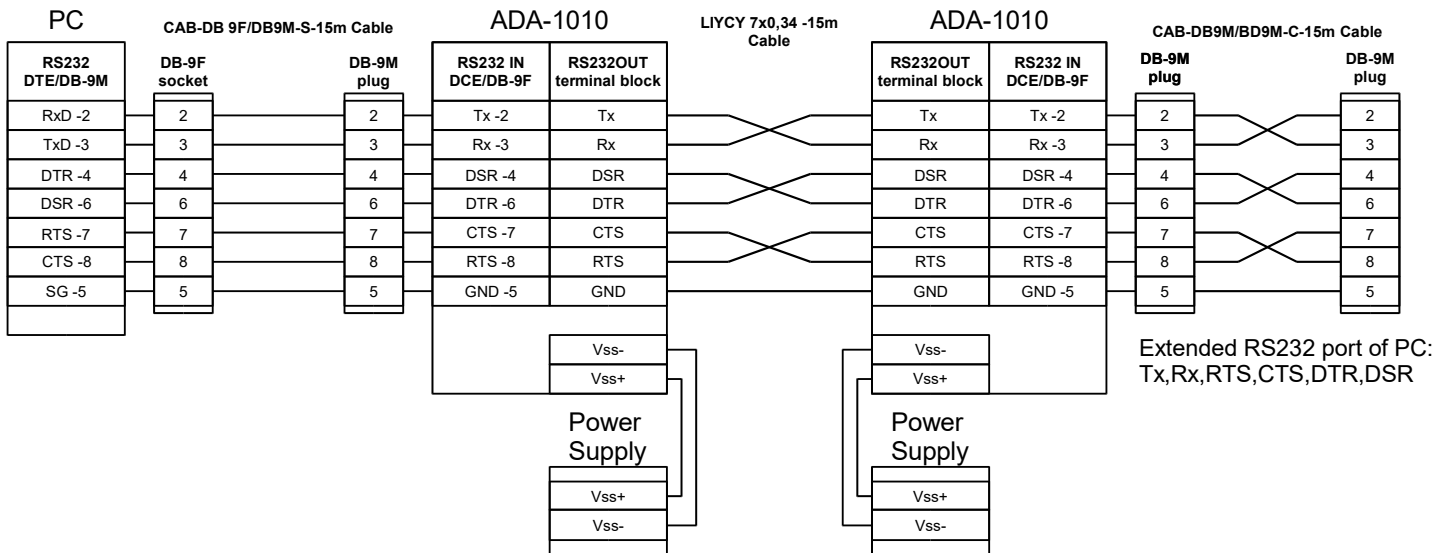

Fig 6. Connection for operation as extender RS232 PC port up to 45m. (3x15m)
- Repeater – using three section of 9-wire shielded cable and two ADA-1010 separators You can connect two devices with RS232 interface together which are distance up to 45m (3 x 15m) Fig.6,
Repeater can be used also to extension the RS232 interface for next segments 15 m. Example connection of RS232 interface extension for 45m is shown on Fig 6.